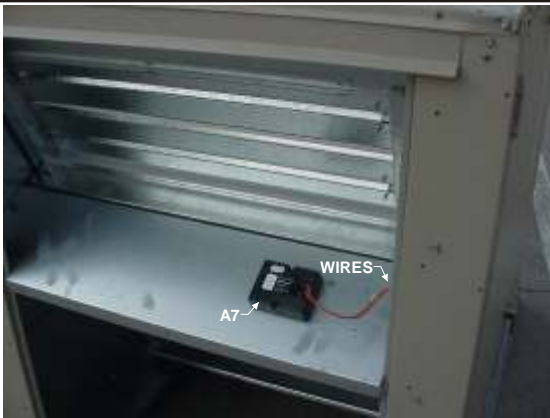

Figure 6
5. The economizer may use an A7 enthalpy sensor located on the division panel between the economizer outdoor air and return air dampers. If present, the sensor must be moved to the intake section of the ERS. Disconnect PI04 from J104. Then push J104 out of sheet metal panel. **See Figure 6.**